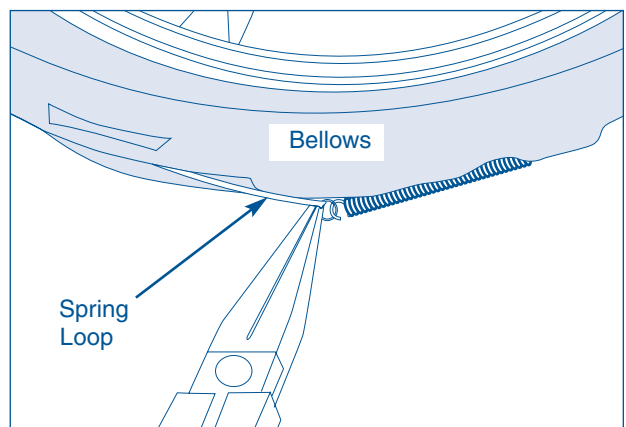

Figure 4-16.
5. Using a needlenose pliers, pull the spring loop out from the retaining lip of the bellows. (See Figure 4-16)